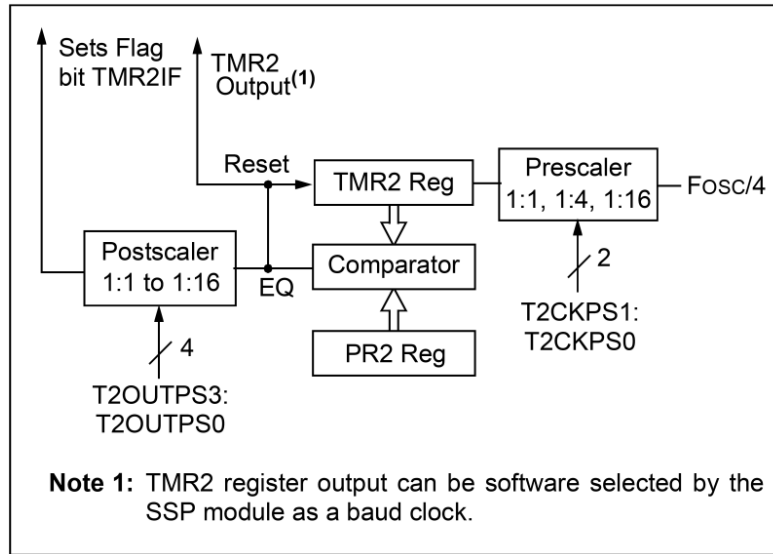

Figure 3(a)
b) Referring to figure 3(b),
i) Explain THREE (3) types of memories available in the Peripheral Interface Controller (PIC) microcontroller and how each of them are being used by the programmer. The description should include the size and the range of each memory explained. Also, explain the amount of memory left in Data memory and Program memory.